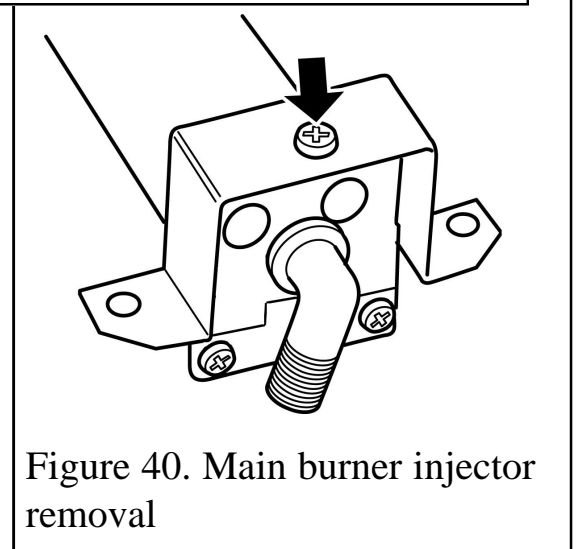

Figure 40. Main burner injector removal
5. If removing the injector, remove the burner clamping screw (See figure 40) and unscrew the injector from the burner